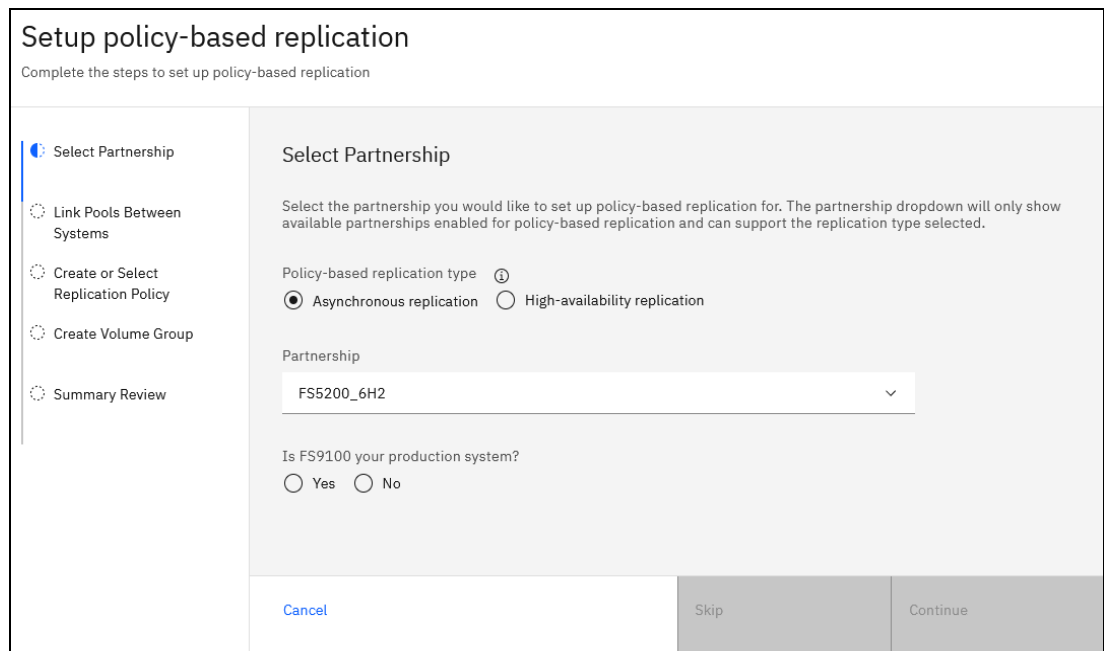

Figure 3-16 Setup policy-based replication wizard
3. Select **Setup policy-based replication** to be guided through the rest of the configuration. See Figure 3-16.